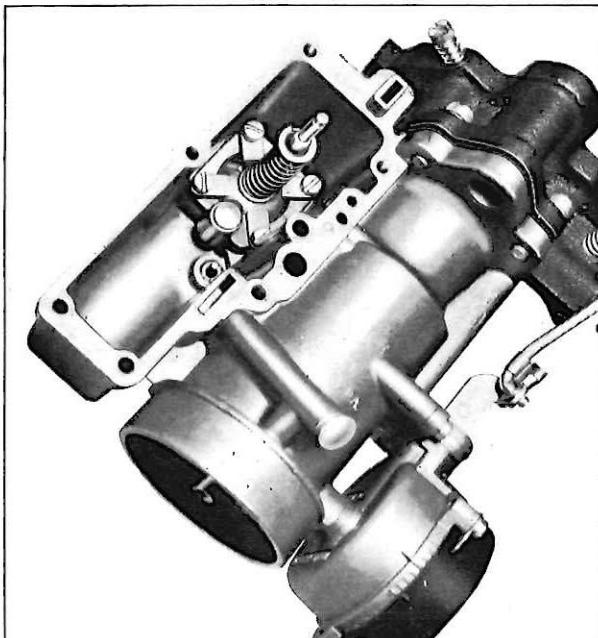

Fig. 15—Pump Diaphragm and Metering Jet Installation
6. Install diaphragm housing screws in housing and thread them 2 or 3 threads into diaphragm (to hold diaphragm in alignment), then install the assembly in carburetor bowl and tighten screws (fig. 15).